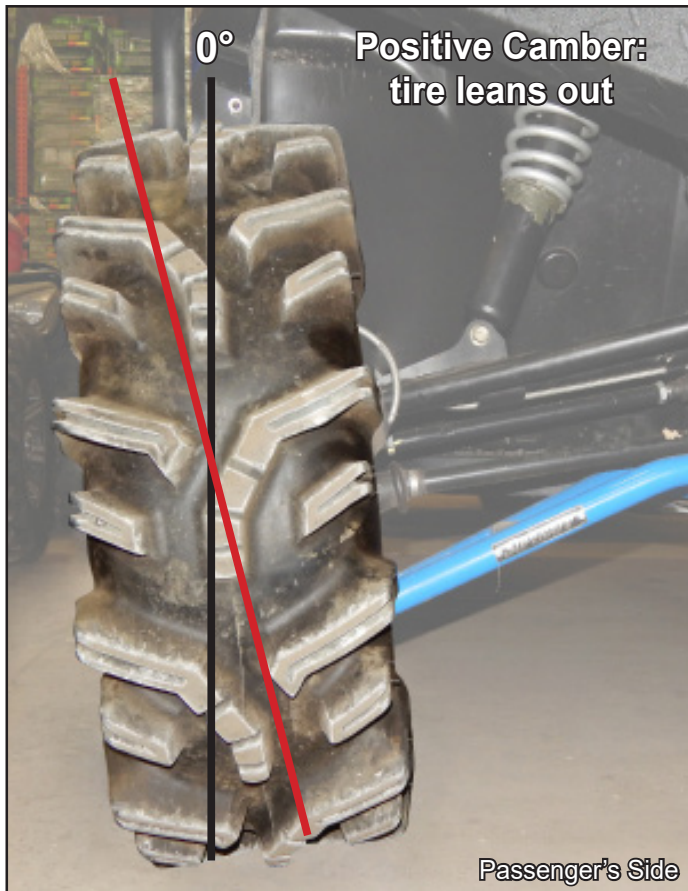

Fig.17
14. Next, install the New Brake Line Clips using the new Screws provided in your kit into the pre-drilled locations on your New A-Arm, as shown in **Fig.17**. Before tightening the screws down, be sure there is no rubbing or binding when steering is turned. If all is OK, then secure the clips.